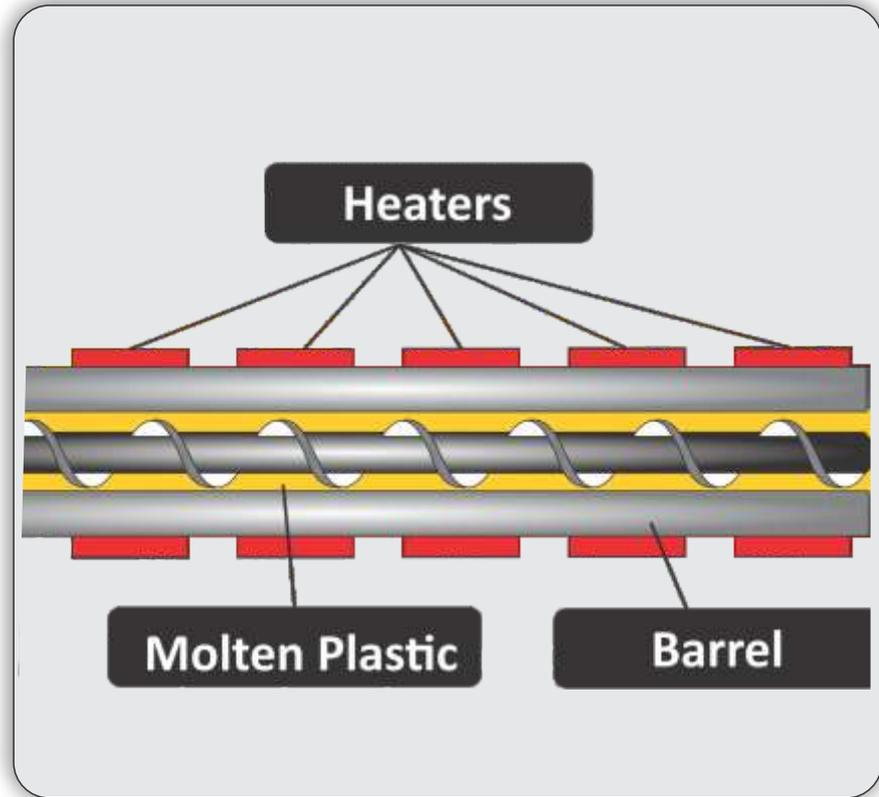

Figure 2.3 Step 2 where heater bands are used to heat the barrel, melting the plastic granules as they move through the screw
- 2 The material enters the barrel from the hopper, where it is driven out the opposite end by the **turning screw**. The screw is located inside the barrel and revolves, pushing the material forward into the die from the front of the barrel. Heater bands (Figure 2.3) are used to heat the barrel, melting the plastic granules as they move through the screw. To melt the granules but not burn them, all plastics require the proper quantity of heat.